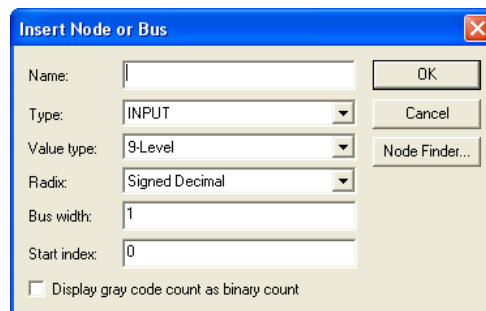
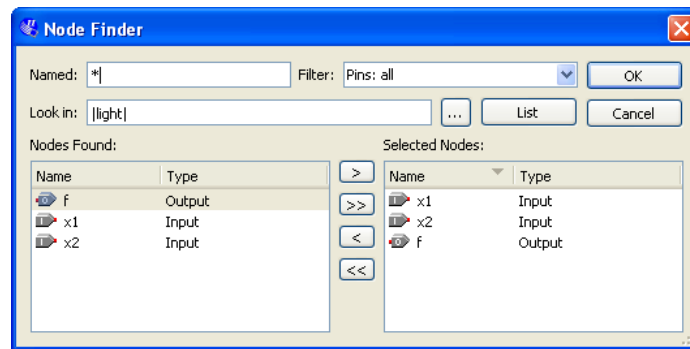
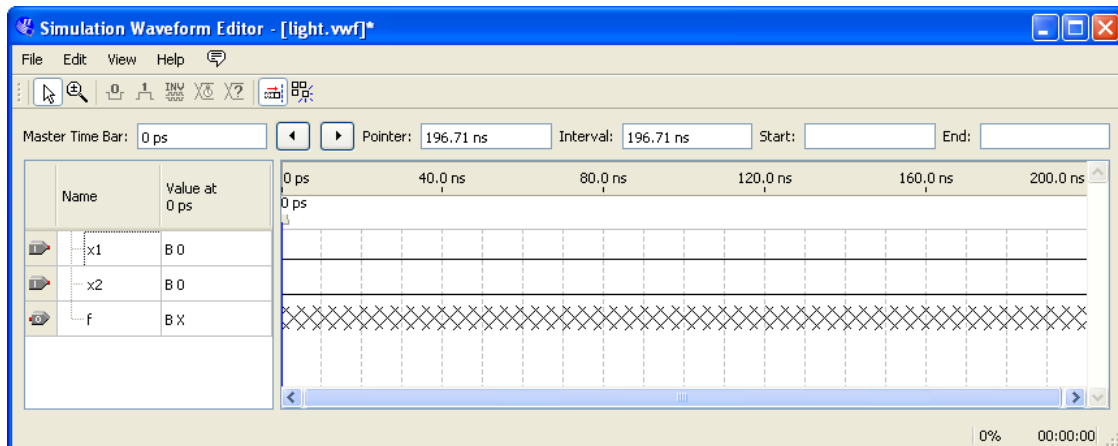

Figure 33. The Insert Node or Bus dialogue.
Figure 34. Selecting nodes to insert into the Waveform Editor.
Figure 35. The nodes needed for simulation.
6. Next, we want to include the input and output nodes of the circuit to be simulated. Click **Edit > Insert > Insert Node or Bus** to open the window in Figure 33. It is possible to type the name of a signal (pin) into the Name box, or use the Node Finder to search your project for the signals. Click on the button labeled **Node Finder** to open the window in Figure 34. The Node Finder utility has a filter used to indicate what type of nodes are to be found. Since we are interested in input and output pins, set the filter to **Pins: all**. Click the **List** button to find the input and output nodes as indicated on the left side of the figure.
Click on the *x1* signal in the Nodes Found box in Figure 34, and then click the > sign to add it to the Selected Nodes box on the right side of the figure. Do the same for *x2* and *f*. Click OK to close the Node Finder window, and then click OK in the window of Figure 33. This leaves a fully displayed Waveform Editor window, as shown in Figure 35.